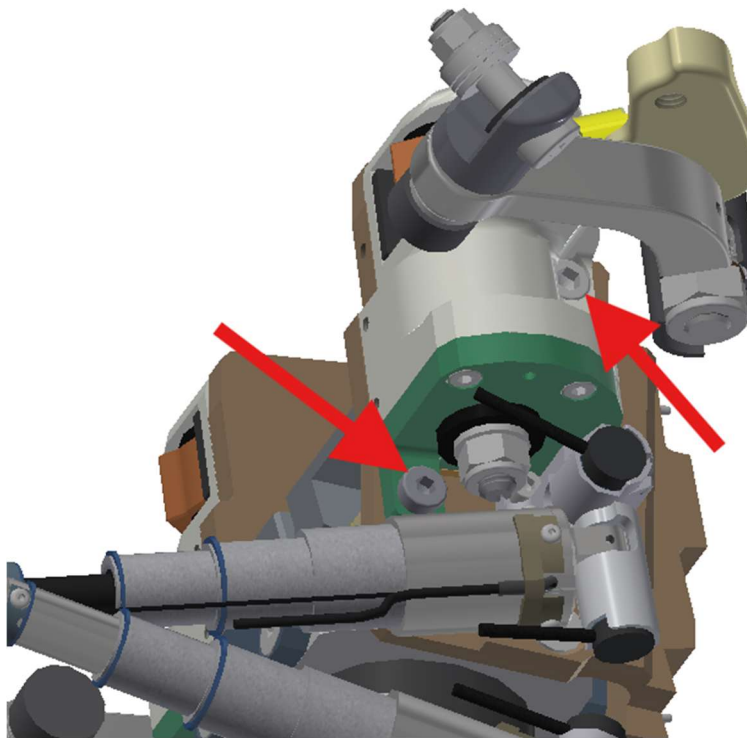

Figure 5-21. Remove two M6 X 1 X 16 LG. SHCS
- 5.2.15 Remove left Shoulder Assembly (474-3500-1) by removing two M6 X 1 X 16 LG. SHCS (Figure 5-21).